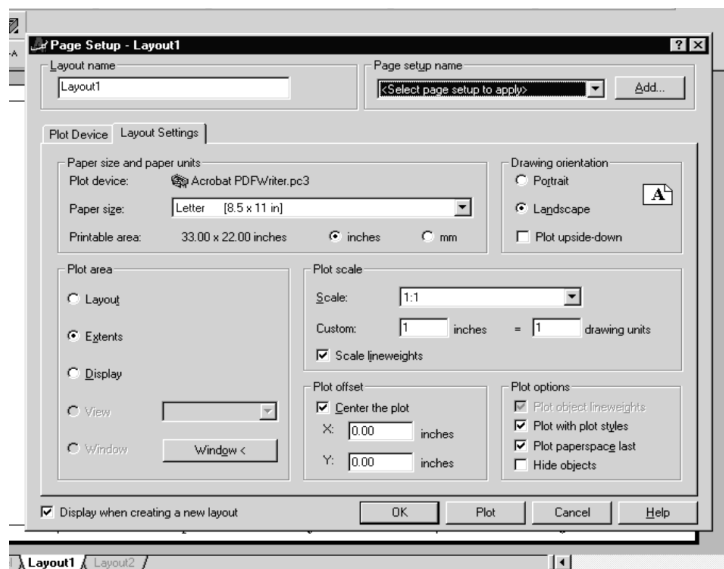

Figure 2.19
- Select the "Layout Settings" Tab (Figure 2.19)